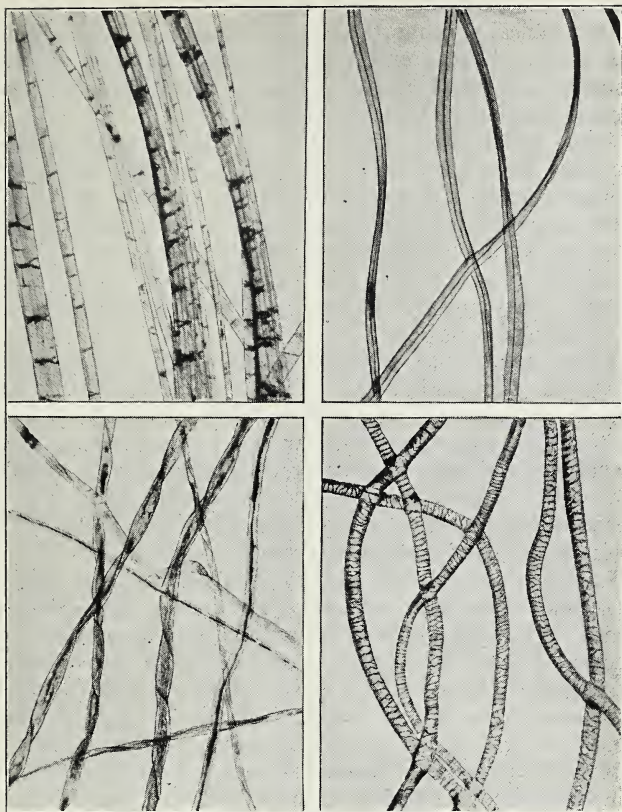

Fig. 427. Fibers as seen under the microscope.
Cotton fibers were nature's idea for scattering cotton seeds abroad. You have probably seen similar hairs on milkweed seeds. You could not spin milkweed-seed hairs, however, for the straight hairs would pull apart. Cotton hairs are twisted in a way that makes them cling together (Fig. 427). Cotton may be treated chemically to give it the appearance of silk or of wool, but the resemblance is in appearance only.
**How to tell the fibers.** Figure 427 shows how various fibers look under the microscope. Experiment 133 shows some tests to distinguish the fibers.
*Directions:* (a) Pull out a thread from each specimen and examine under the microscope. Compare with Figure 427.